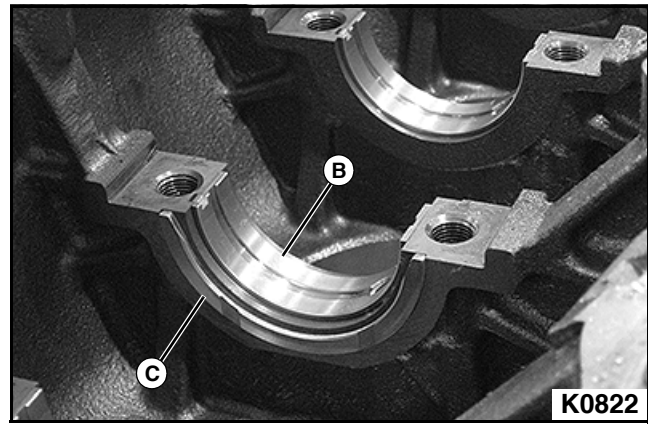

Figure 3-236
1. Install the upper bearing (B) which has an oil groove on the whole periphery, with the cylinder block oil hole and lock groove as the guide. **See Figure 3-236.**
2. Install the upper thrust washers (C) to the No. 3 journal supporting portion, with the oil grooves facing outward.